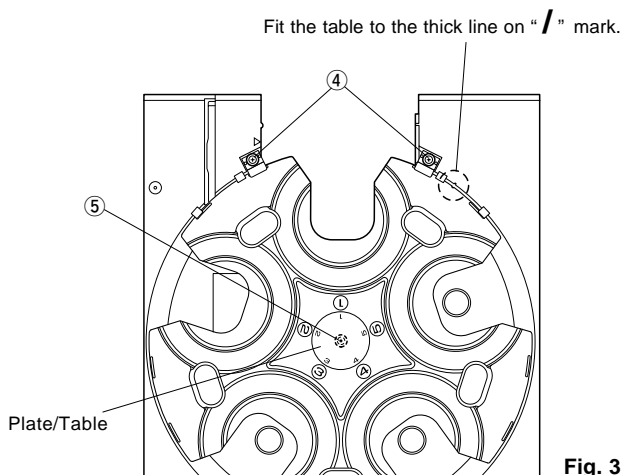

Fig. 3
- a. Remove 2 screws ( ④ ) and then remove the Roller Ass'y in Fig. 3.
- b. Remove the Plate/Table in Fig. 3.
- c. Remove 1 screw ( ⑤ ) and then take off the Table in Fig. 3.
- 3) Install the Table by aligning it to the thick line on "/" mark. (Fig.3)